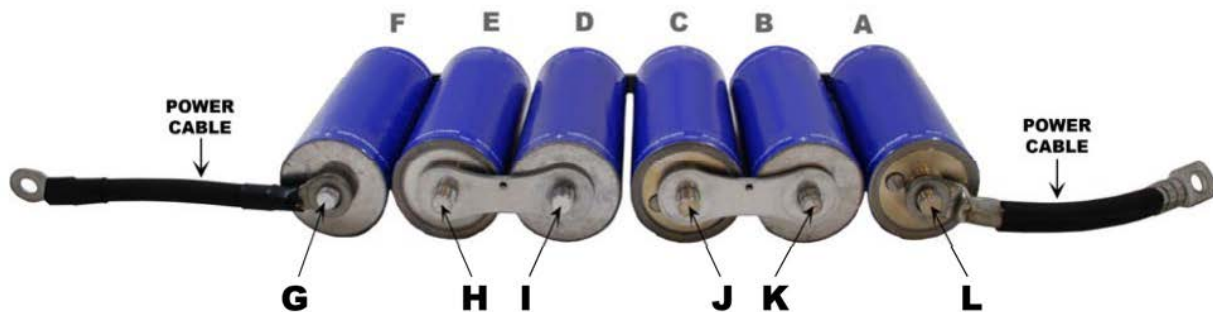

Figure 7
3.2.6 Place lugs attached to power cables (1/0 AWG cables shown in Figure 7) over the remaining two threaded terminals of the cells at the ends of the series and an aluminum washer(s) over each lug. (Figure 7, G and L). It is important to use a lug plus an aluminum washer that together have a combined thickness of  $3.2 \pm 1.0$  mm. This prevents the voltage management boards (which are attached in the following step) from being stressed due to uneven stack up of the elements bolted to the cell.